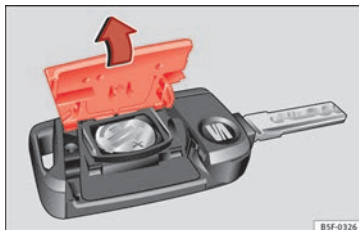

Fig. 135 Vehicle key: opening the battery compartment.
- Remove the cover from the back of the vehicle key **Fig. 135** in the direction of the arrow **①**.
- Fit the cover as shown **Fig. 135**, pressing it onto the vehicle key casing in the opposite direction to that shown by the arrow until it clicks into place.